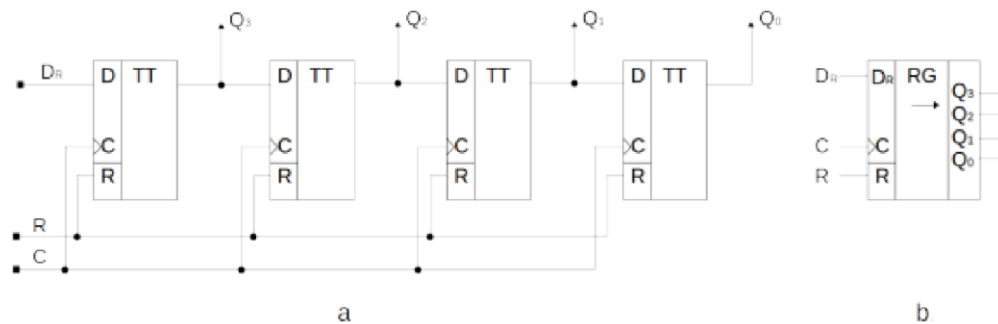

Figure 4.2: 4 bit logic right shift register a), symbol b)
A shift register is a group of flip-flops connected to one another in a chain so that the output of one flipflop becomes the input of the next one. In this case every time a clock pulse is applied, each bit is moving from left to right, this operation is called logic shift to the right (LR). The schematic of the shift register is shown in Figure 4.2.